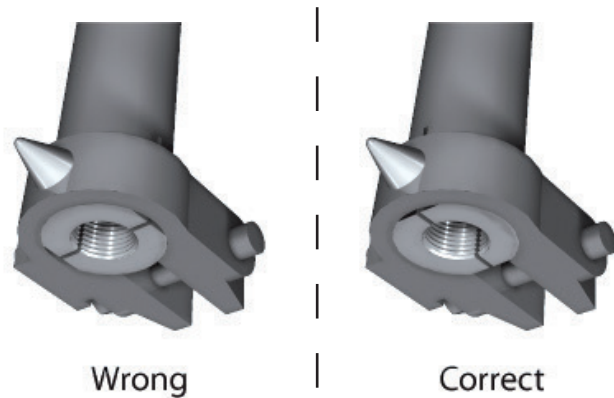

Figure 5: Actuator Stem / Stem Clamp Alignment
- ⚠ CAUTION:** Make sure the slots of the actuator stem are perpendicular to the stem clamp bolting. See Figure 5. Proceed to step 7.14.
- ⚠ CAUTION:** Make sure the slots of the actuator stem are perpendicular to the stem clamp bolting. See Figure 5.